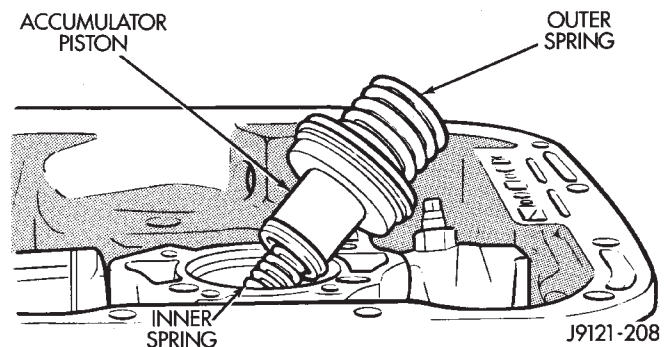

Fig. 156 Installing Accumulator Piston And Springs
(44) Carefully withdraw alignment tool from overdrive unit.
(45) Lubricate intermediate shaft splines and bushing surfaces with transmission fluid or petroleum jelly.
(46) Install overdrive unit. Be sure governor tubes are aligned with feed holes in piston retainer boss. Intermediate shaft is snug fit in overdrive planetary gear and overrunning clutch. If overdrive unit will not seat fully, rotate overdrive output shaft slightly to align splines and try again.
(47) Apply 1-2 drops of Mopar thread adhesive (or Loctite 242) to overdrive unit attaching bolts. Then install and tighten bolts to 34 N• (25 ft. lbs.) torque.
(48) Install accumulator inner spring, piston and outer spring (Fig. 156).